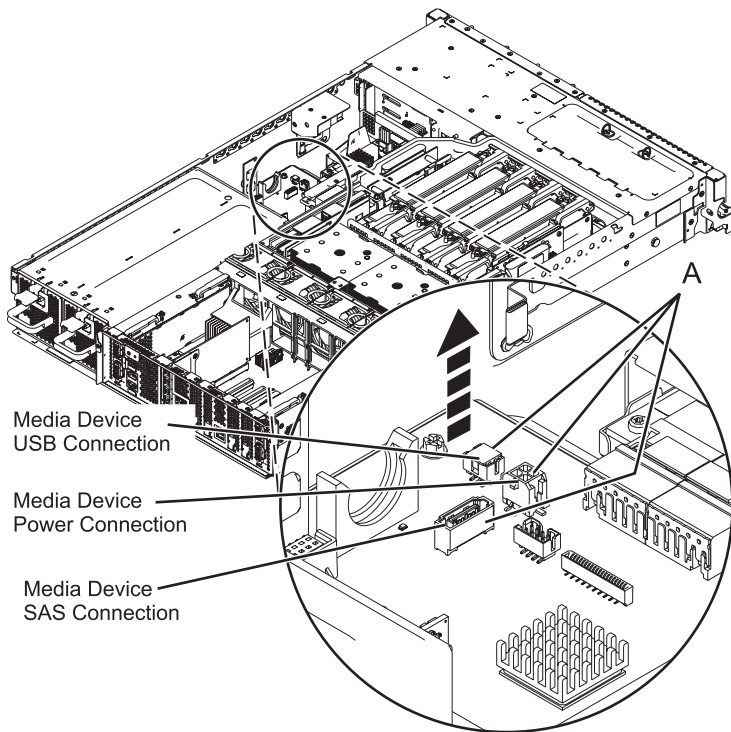

Figure 40. Disconnecting the media device cables
c. Disconnect the media device cables (A). See Figure 40.